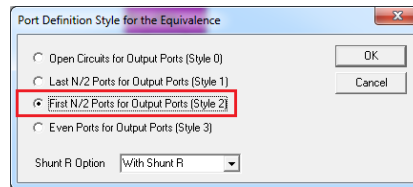

Fig. 32 Extracting Low Frequency RLC Equivalent Circuit on Modua
6. Make sure the selection is *"First N/2 Ports for Output ports (Style 1)"* when Modua prompts you for *Port Definition Style for the Equivalence*. This command is to extract the RLC equivalent circuit of coupled interconnects. For our example, we have 4 ports or $N = 4$. Port 1 to port 3 is the 1st interconnect, while port 2 to port 4 is the 2nd interconnect. Port 3 and port 4 are the input ports of the coupled interconnects. Port 1 and port 2 are the output ports of the coupled interconnects. We are extracting the coupled RLC equivalent circuit from it (see Fig. 32).